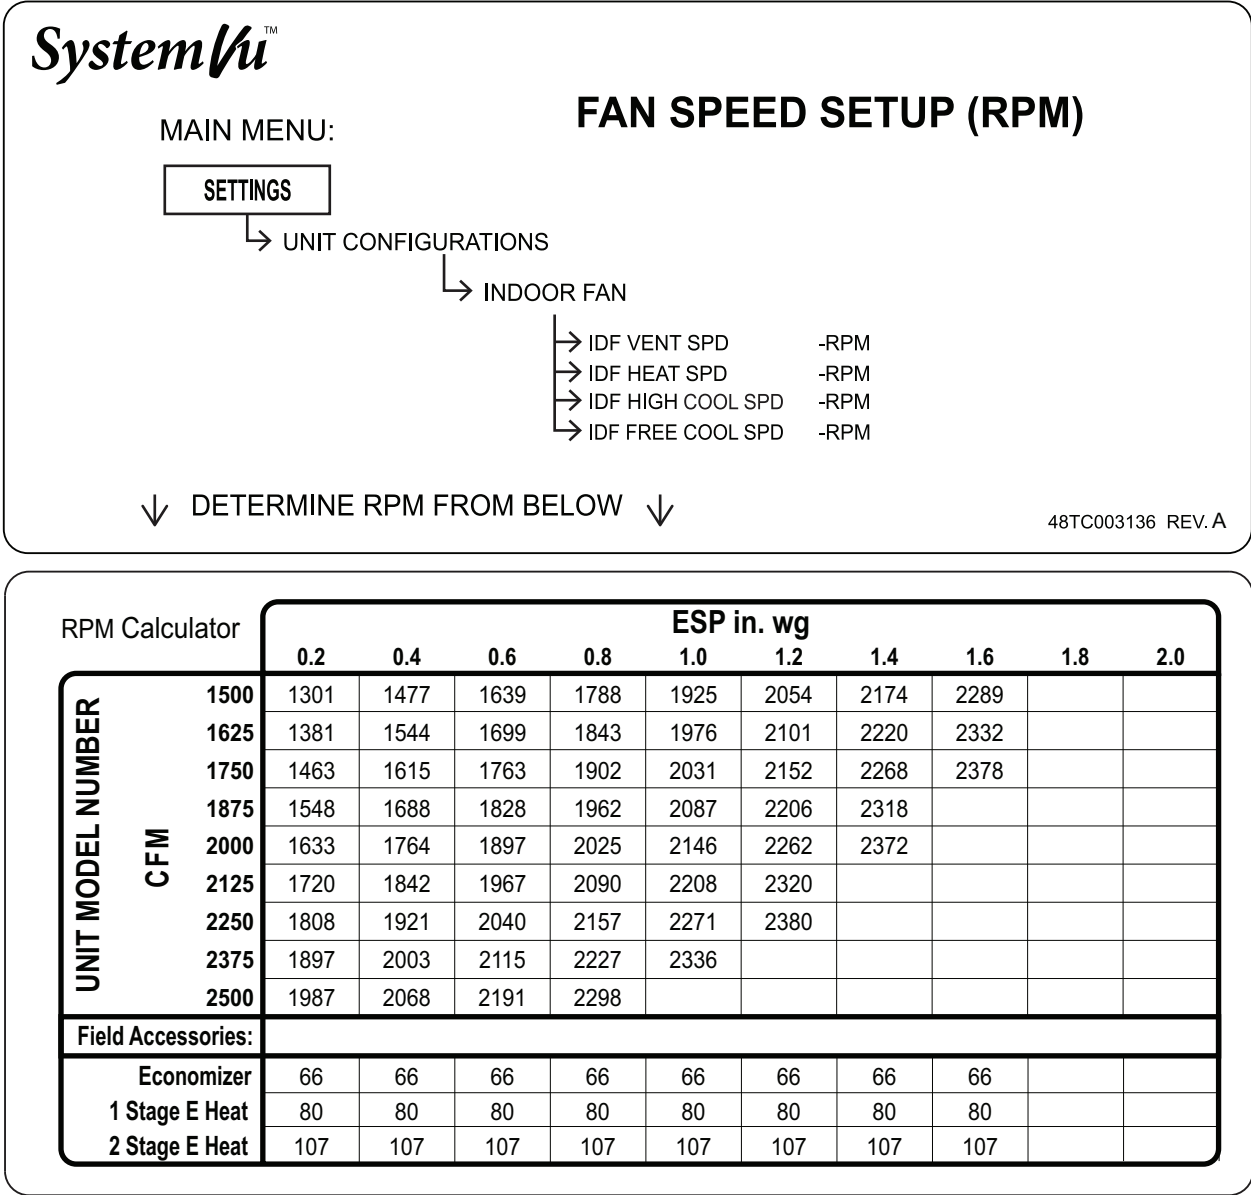

Fig. 4 — Example of Fan Speed Set Up Labels
The evaporator fan does not need to be checked for rotation as it only operates in one direction. Refer to the unit product data for full Fan Performance tables and physical data. The specific unit's fan performance table is printed and adhered to the control box high voltage cover. See Fig. 4 for an example fan performance table.
2. Using the chart on the Fan Speed Set Up labels (see Fig. 4), calculate the rpm from the cfm and ESP for the base unit plus any field accessories (as listed on the label).
8. Refer to the job specifications to set the following, determining the values per the rpm Calculator label (see Fig. 4). Use the UP and DOWN arrow keys and the BACK key to set the values. Press ENTER after setting each value to continue to the next selection.